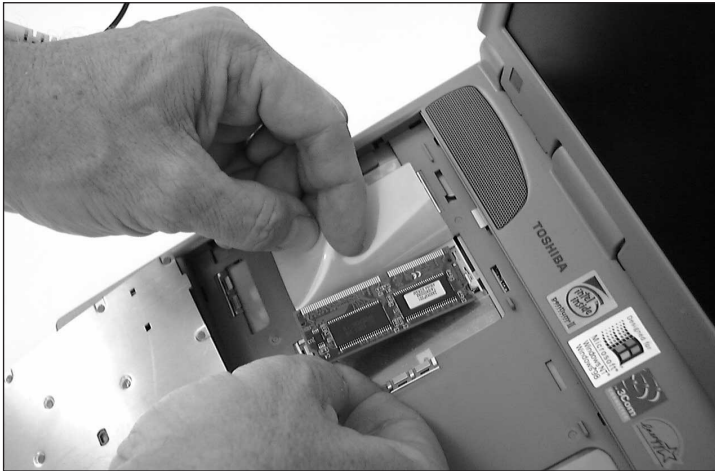

Figure 18-24 Install the SO-DIMM into the memory socket
5. Insert the SO-DIMM module into the socket. See Figure 18-24. The socket braces should snap into place on each side of the module when the module is in position.